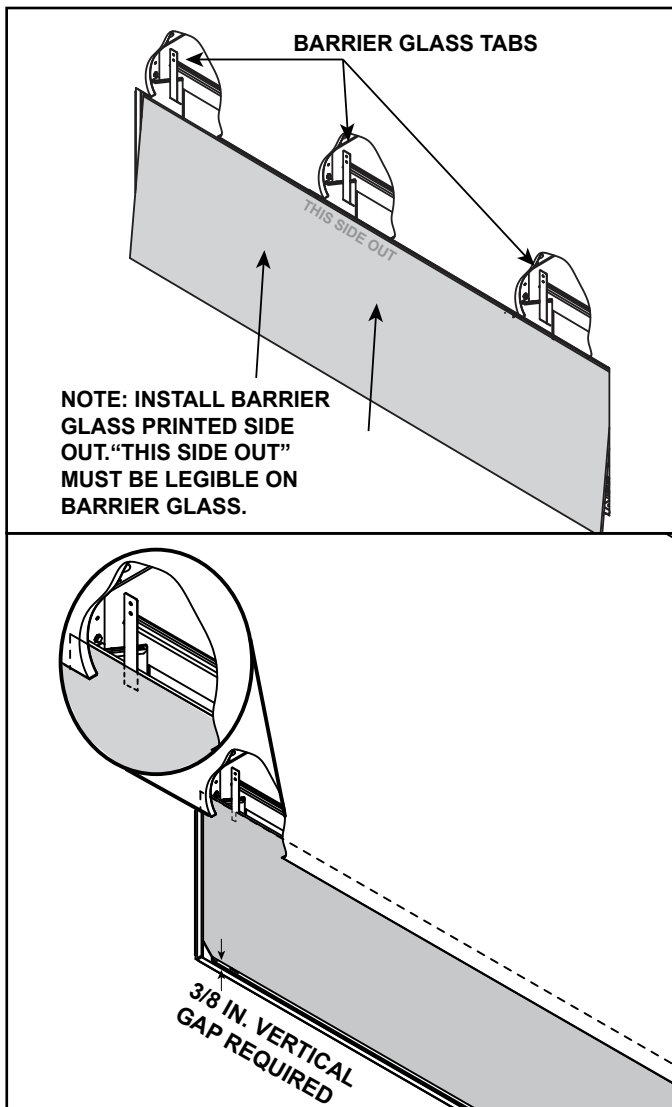

Figure 11.3. Replace Barrier Glass - Clean Face Finish
2. Tilt glass and slide glass between finishing material and barrier glass tabs. See Figure 11.3.
NOTE: Barrier glass must be installed between the finishing material and the barrier glass tabs. If not installed correctly, appliance will not operate. See Figure 11.3.